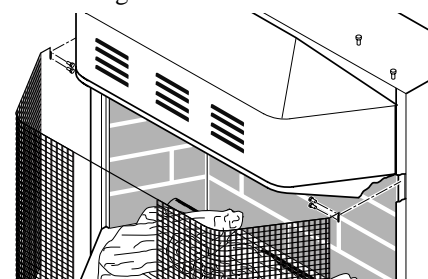
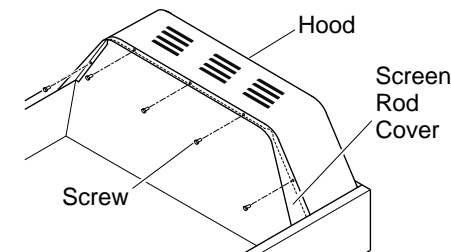
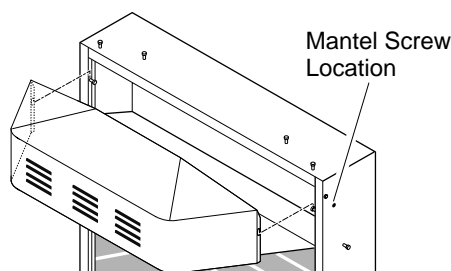

Figure 11 - Removing Screen
Figure 12 - Removing Hood Screws
Figure 13 - Removing Hood
2. Remove screen from fireplace by removing screws in each end of screen rod (see Figure 11). Hold screen rod cover while removing five hex head screws underneath hood (see Figure 12). Carefully lift and pull out hood (see Figure 13).
11. Attach remaining two 3" wood screws from hardware pack through openings inside of fireplace sides into the mantel. See Figure 13 for screw hole location.